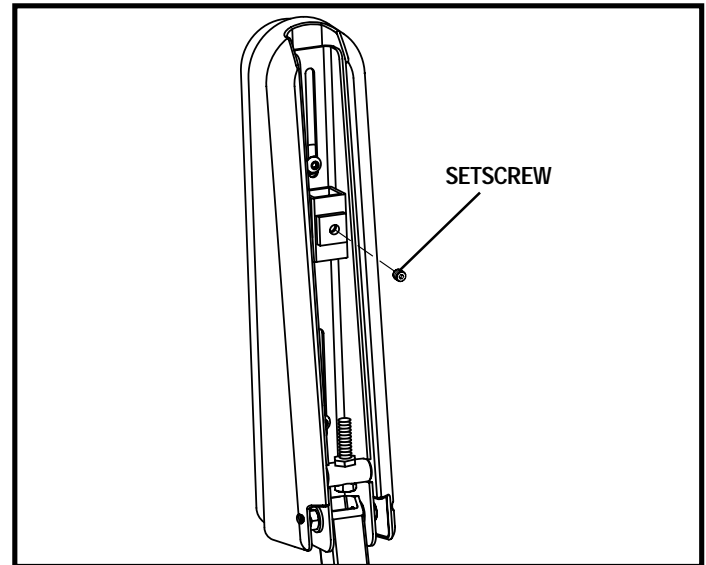

Figure 14. Underside of Armrest
2. Loosen the setscrew on the controller bracket. See figure 14.